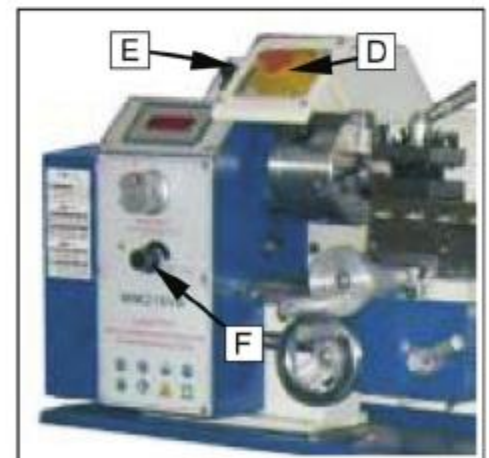

Fig.9
1. Emergency Button ON/OFF Switch (D, Fig. 9)
2. Change-over Switch (E, Fig. 9)
3. Variable Speed Control Switch (F, Fig. 9)